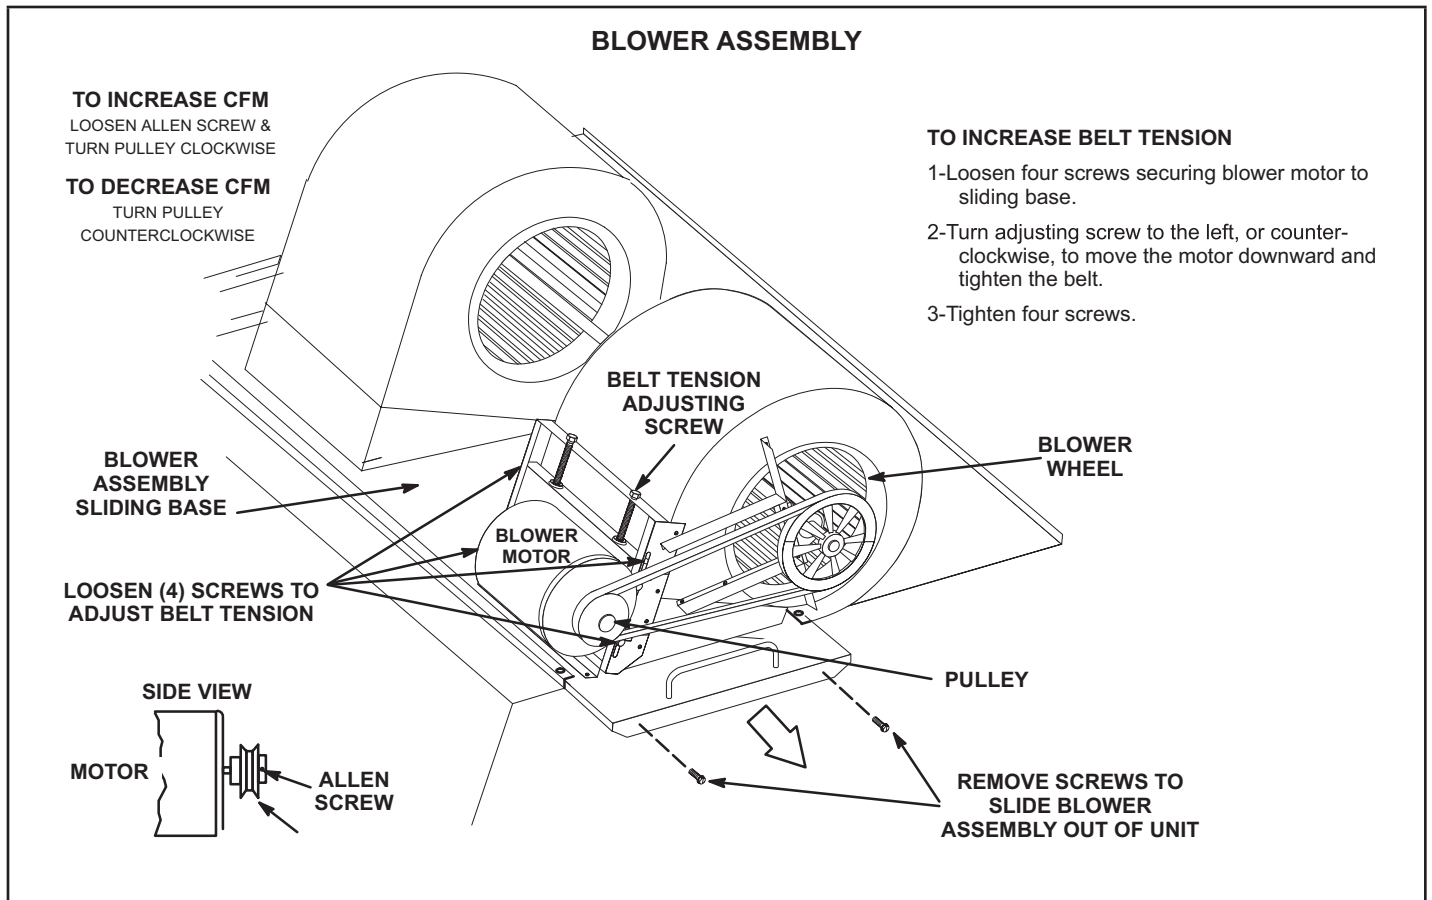

FIGURE 21
- 2 - Remove screws on either side of blower assembly sliding base. See FIGURE 21.
4 - The blower RPM can be adjusted at the motor pulley. Loosen Allen screw and turn adjustable pulley clockwise to increase CFM. Turn counterclockwise to decrease CFM. See FIGURE 21. Do not exceed minimum and maximum number of pulley turns as shown in TABLE 3.
- 1 - Loosen four screws securing blower motor to sliding base. See FIGURE 21.